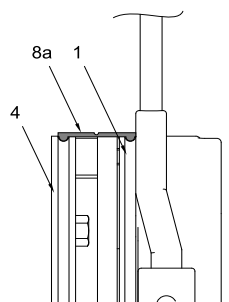

Figure 50 – Traverse Drive Brake Seal
- Press the lips of the seal into the grooves into the stator (1) and the mounting flange (4) (see Figure 50).